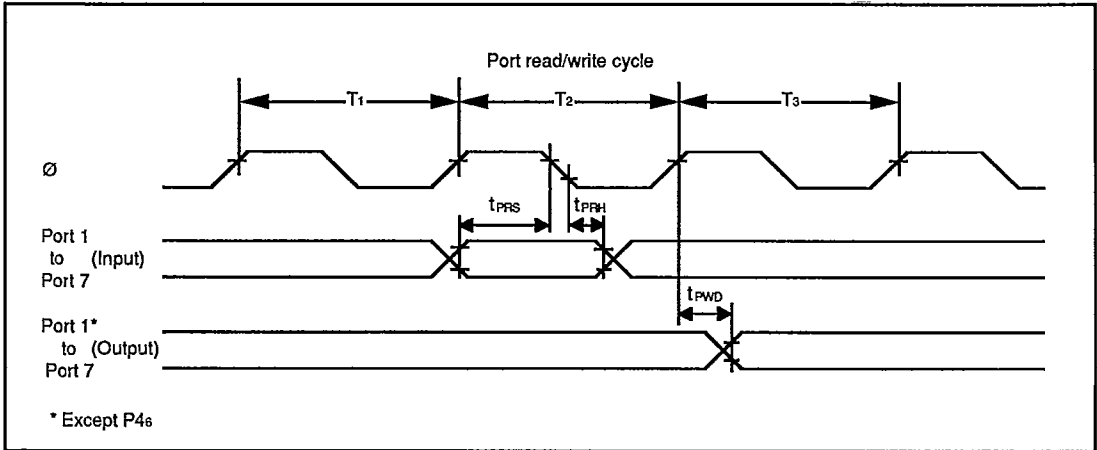

Figure 15-18. I/O Port Input/Output Timing
- 15.3.7 I/O Port Timing Figure 15-18